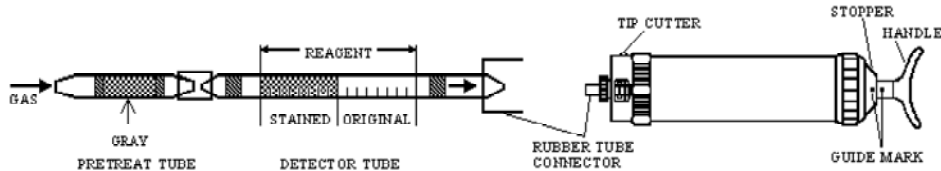

Fig.1
- ① Break both ends of detector tube and pretreat tube, and connect each end of the detector tube and pretreat tube with rubber tube connector as shown in Fig.1.
- ② Insert the detector tube into aspirating pump securely as shown in Fig.1 (Arrow mark shall point to the pump)
- ③ Align the guide marks on the shaft and stopper of the aspirating pump.
- ④ Pull the pump handle at full stroke until it locks and wait for 1.5 minutes or until the completion of sampling is confirmed with the flow indicator of the pump (See descriptions about the flow indicator in the instructions of the pump).